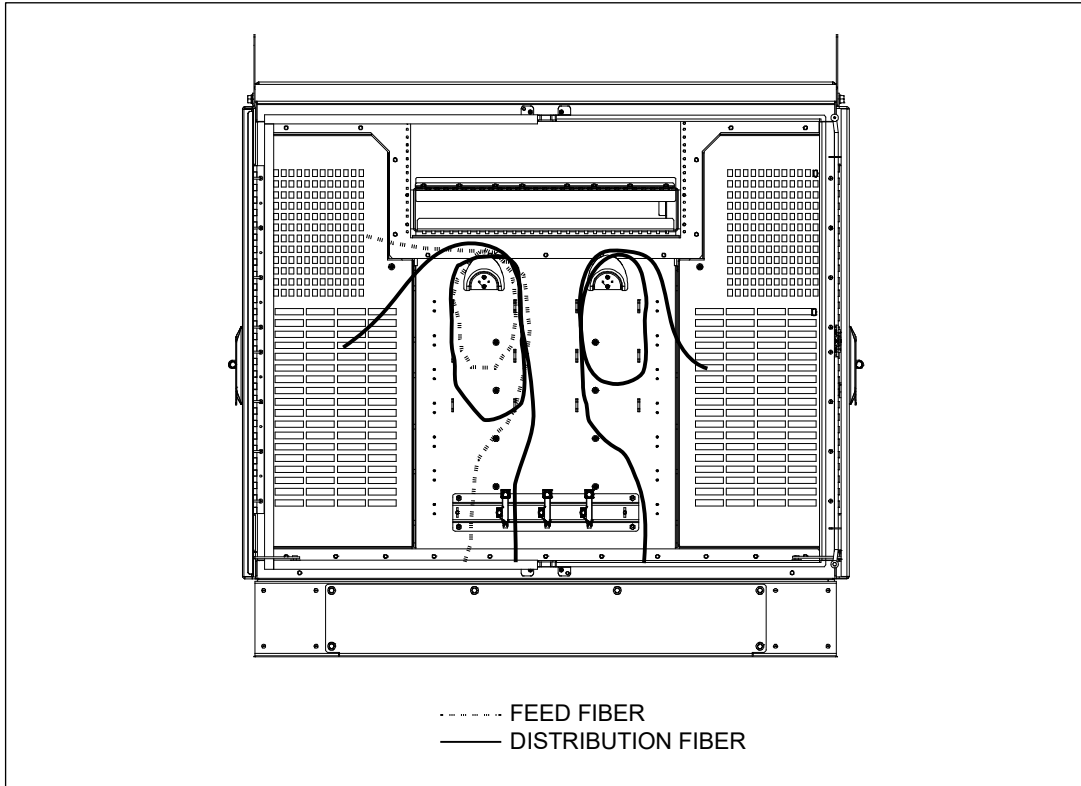

Figure 8 Feed and Distribution Routing, Single Fiber Shown
5. Route feed buffer tubes around the basket, using the tie-down points and cable bend controls provided. Observe the proper bending radius for all buffer tubes. (Figure 8).
6. Connect fiber fanouts to the input ports for the splitters. Observe the proper bending radius for all fanouts (Figure 8).
5. Route distribution buffer tubes around the basket, using the tie-down points and cable bend controls provided. Observe the proper bending radius for all buffer tubes. (Figure 8).
6. Connect fiber fanouts to the output ports from the splitters. Observe the proper bending radius for all fanouts (Figure 8).